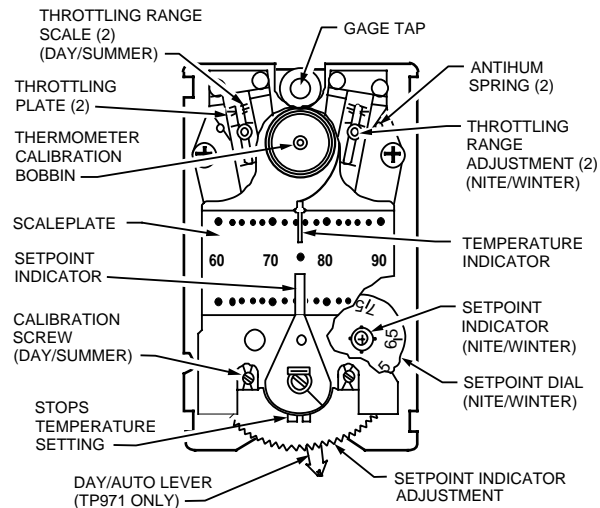

Fig. 15. Thermostat Front View, Cover Off, Showing Controls and Indicators.
1. The antihum spring (Fig. 15) must be free. Be sure the spring just touches the throttling plate and is not wedged against it (does not apply to all TP970C and D or any TP970 series starting with 2000, i.e., TP972A2143 and TP9600 series).
2. If the difference is more than 1 degree F (0.56 degree C), use the Thermometer Calibration Tool MQT970 to twist the thermostat thermometer calibration bobbin (Fig. 15) until the thermostat thermometer reading is correct.
2. Turn the calibration screw (Fig. 15) until the gage reads 0 psi (0 kPa).
1. With 13 psi (90 kPa) main air pressure, turn the DAY (SUMMER) (left) calibration screw (Fig. 15) until the gage reads 0 psi (0 kPa).
4. Repeat Steps 1 and 2 using the NITE (WINTER) (right) calibration screw (Fig. 15). The TP971 is now calibrated.
3. With 18 psi (124 kPa) main air pressure, repeat Steps 1 and 2 using the NITE (WINTER) (right) calibration screw (Fig. 15). The TP972 and TP9620 are now calibrated.
1. Turn the calibration screw (Fig. 15) until the gage reads 0 psi (0 kPa).
1. With 13 psi (90 kPa) main line pressure, turn the DAY (SUMMER) (left) calibration screw (Fig. 15) until the gage reads 0 psi (0 kPa).
4. Repeat Steps 1 and 2 using the NITE (WINTER) (right) calibration screw (Fig. 15). The thermostat is now calibrated.